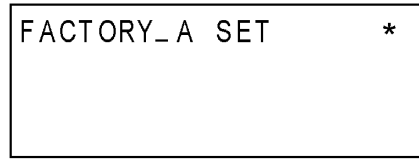

Fig. 55
- (5) Use the “ ← ” and “ → ” keys to set each value for the steps (2) through (4), and then press the “RET” key to fix them in order to write into the EEPROM.
- (6) The display shifts to the Factory Mode 1 as shown in Fig.55.